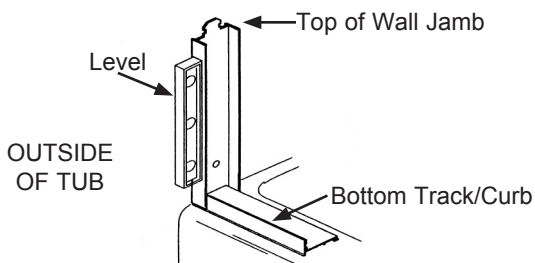

Figure 3
- B. Place the left Wall Jamb (#3L) against the left wall and slip the bottom of the Wall Jamb (#3L) over the Bottom Track/Curb (#2). Use a Level, held against the side of the Wall Jamb (#3L) to align it vertically straight up and down as shown in Figure 3. Use a Pencil to mark the position of each of the three pre-drilled holes in the left Wall Jamb (#3L). Set the Wall Jamb (#3L) aside for the moment.